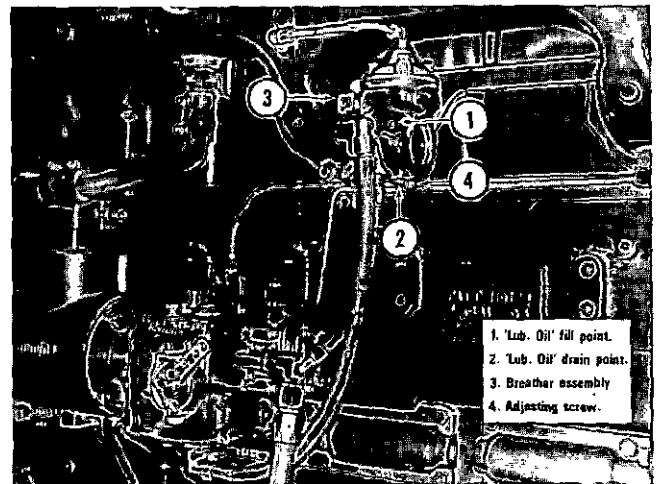

Fig. 2-34 (N10503) Aneroid
1. Remove fill plug (1, Fig. 2-34) from hole marked "Lub Oil."
2. Remove drain plug (2) from bottom of aneroid.
3. Replace pipe plug (2), fill aneroid with clean engine lubricating oil. Replace fill plug (1).
Normally, no adjustment of the aneroid is required; however, if smoke is evident and all other engine adjustments have been checked, back out adjusting screw (4, Fig. 2-34). If screw must be backed out until acceleration is slow, have unit checked by a Cummins Distributor.
At each "D" Check, remove and replace aneroid breather (3, Fig. 2-34).